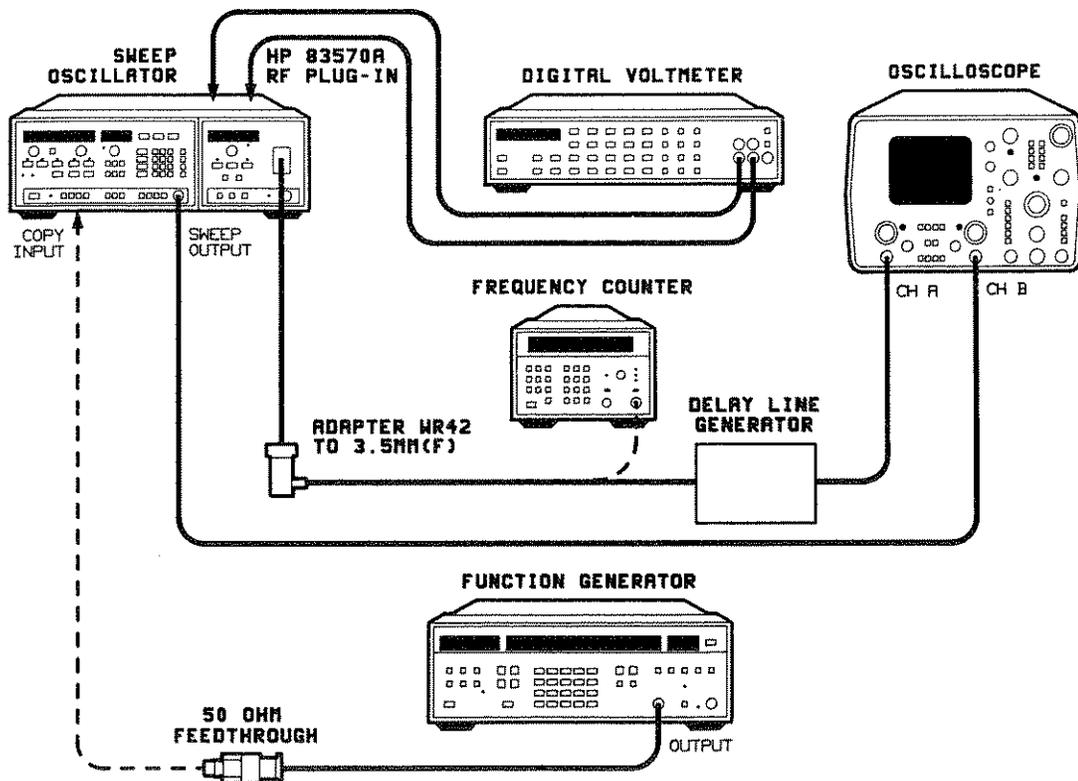

Figure 5-30. FM Adjustment Test Setup
1. The equipment in Figure 5-30 will be configured in the following procedure. In the interim, allow 30 minutes for warm-up for each instrument.
9. Connect the equipment as shown in Figure 5-30 with the delay line discriminator connected to the RF OUTPUT and the function generator connected to the rear panel FM INPUT connector.